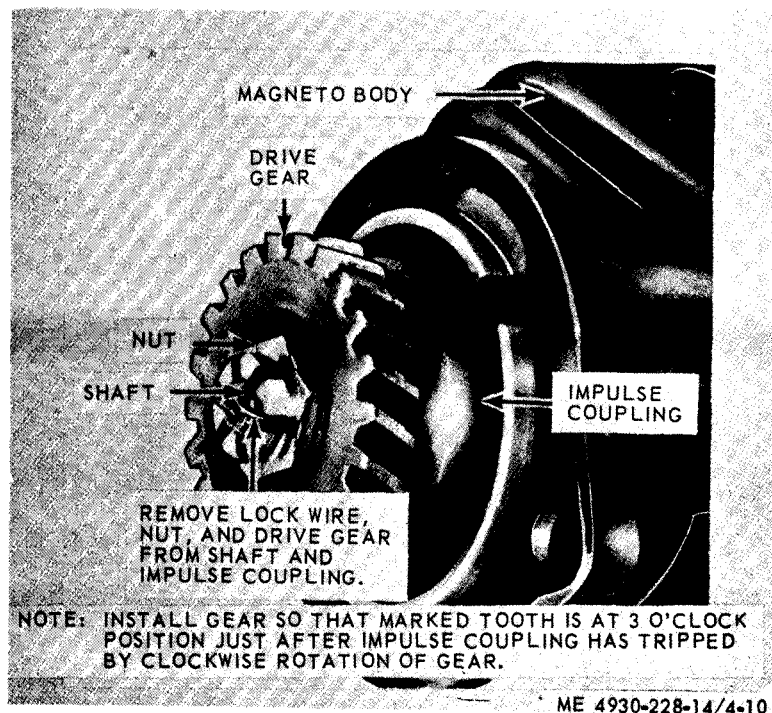

Figure 4-10. Magneto drive gear, removal and installation.
d. *Magneto Drive Gear Replacement.* Refer to figure 4-10 and remove and install the magneto drive gear.